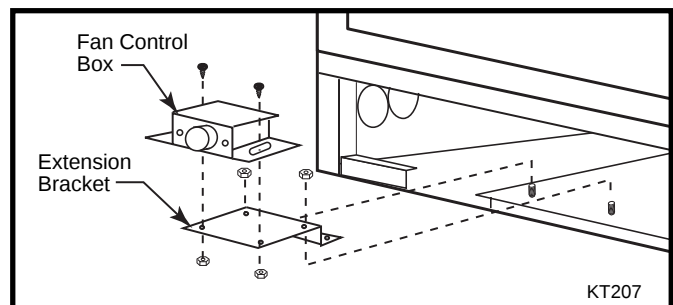

Fig. 61 Attach the control box to the bracket and install bracket into the cabinet.
- Attach the Fan Speed Control Box to the Bracket (Fig. 61) and install the Bracket into the Cabinet.